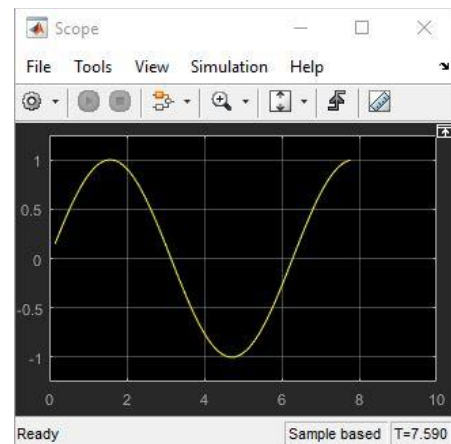

Figure 2: Scope output
7. The open **Scope** should display a sine wave in real time (Figure 2). If the Scope is not opened, double click it to see the sine wave.